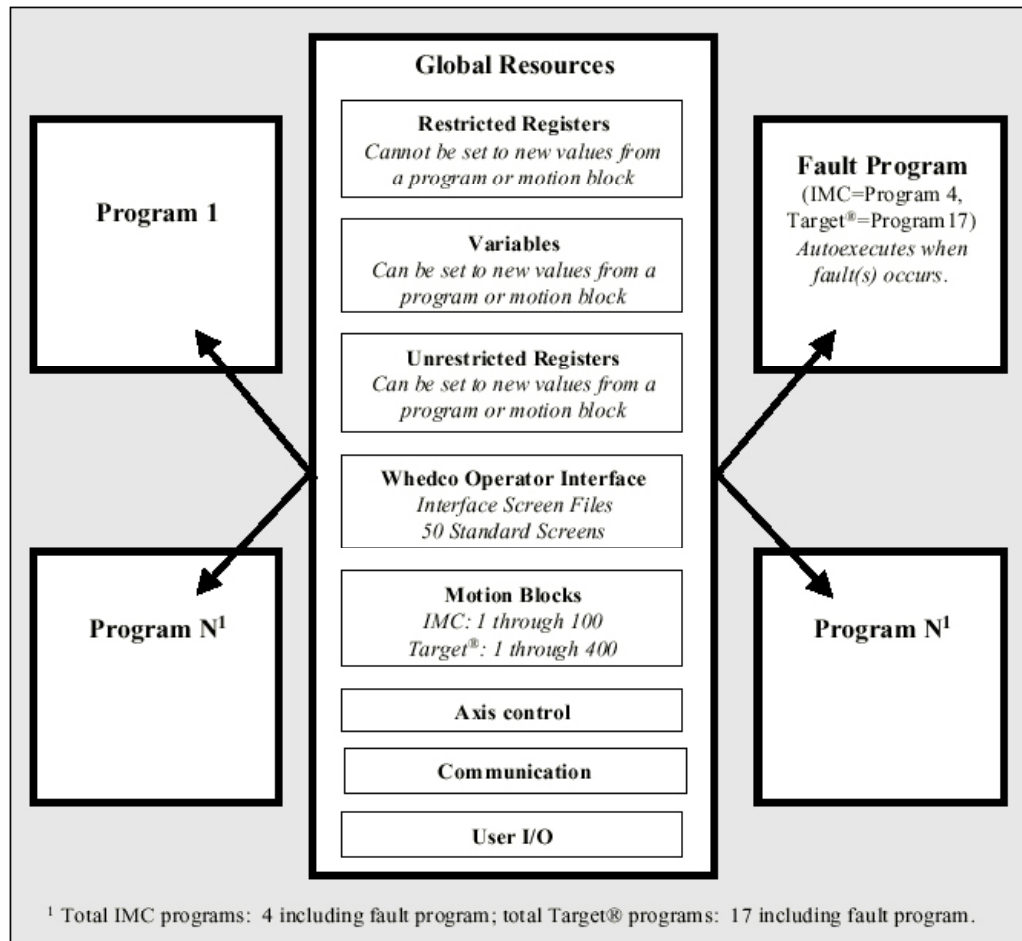

Figure 5.1: Structure of the Generation D RTOS
The Generation D RTOS allows you to create a control system for complex motion applications with real-time machine control and human-machine interface functions. The Generation D RTOS is multitasking and has global resources (shown in figure 5.1) that are shared by all tasks.
- Discipline yourself to use global resources (see figure 5.1 on page 5-2) in blocks that are unique to individual programs or motion blocks. This practice avoids interactions between programs or motion blocks that could load a variable or register with a value that is nonconforming in another program. An example of this practice would be to use integer variables 1-49 in program 1, 50-99 in program 2, and so forth.